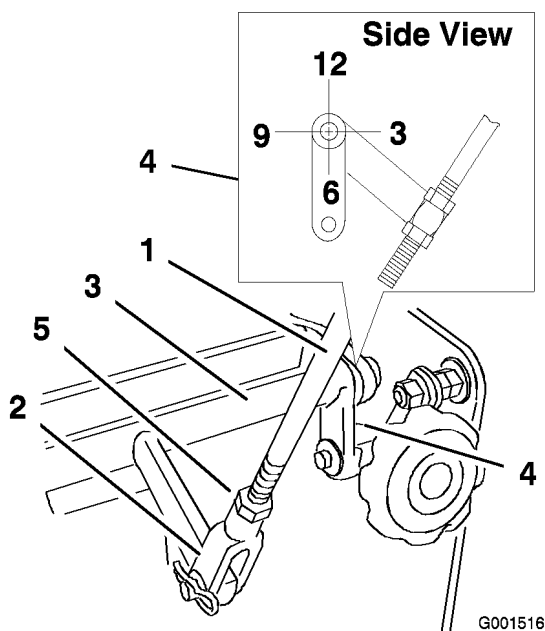

Figure 33
4. Check the orientation of the tabs on the ends of the speed control crank. These tabs should be pointing straight down at the 6 o'clock position approximately (Figure 33).
5. Adjust the threaded yoke at the bottom of the speed control linkage until the tabs are at the 6 o'clock position (Figure 33).